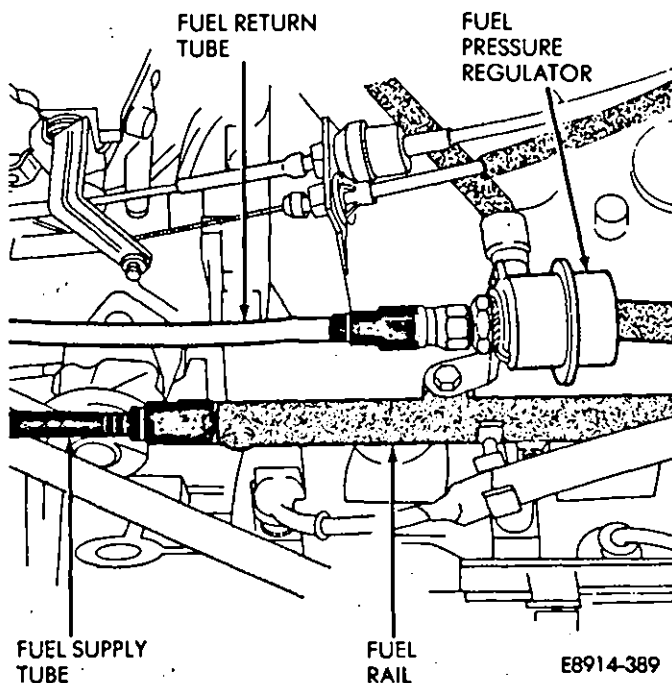

Fig. 17—Fuel Rail Removal/Installation
(2) Remove the fuel tank filler cap to relieve the fuel tank pressure.
(3) Install the fuel tank filler cap.
(4) Disconnect the grey fuel return tube from pressure regulator and black fuel supply tube from fuel rail using fuel tube disconnect tool number 6182. Slide the tool onto the nipple and push it forward into quick-connector until the handle stops on the connector casing. Pull the fuel tubes off (Fig. 17).